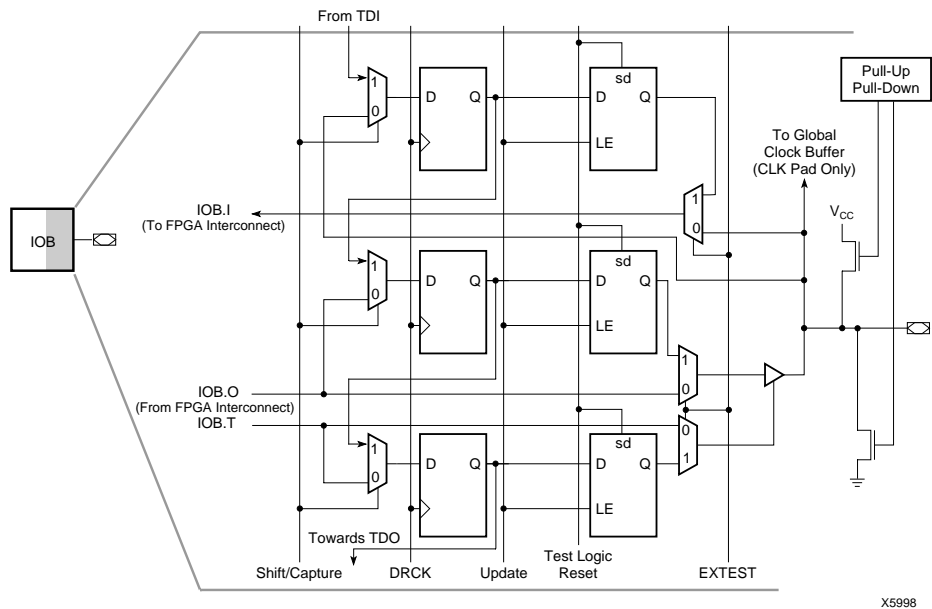

Figure 2: Boundary Scan Logic in a Typical IOB
The Data Register (DR) is a serial shift register implemented in the IOBs of the FPGA device, (Figure 2). Potentially, each IOB can be configured as an independently controlled bidirectional pin. Therefore, three data register bits are provided per IOB: for input data, output data and 3-state control. In practice, many of these bits are redundant, but they are not removed from the scan chain.